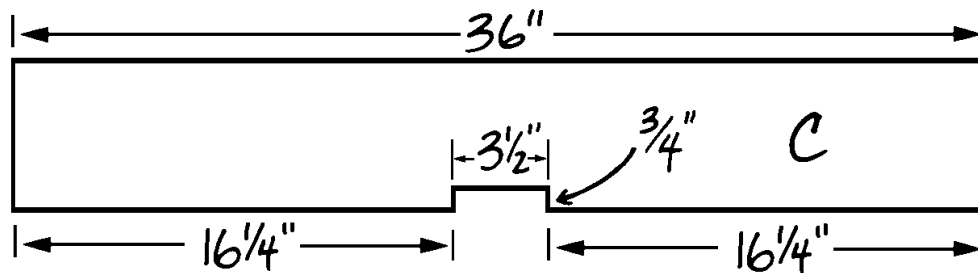

Figure 2
4. Cut four 36"-long shelves (C) from 1 x 6 pine.
5. A slot must be cut into each of the four shelves (C) at the center front to accommodate the center vertical support (E). Using *Figure 2* as a guide, cut a slot 3-1/2" wide and 3/4" deep in the center front of each shelf (C).